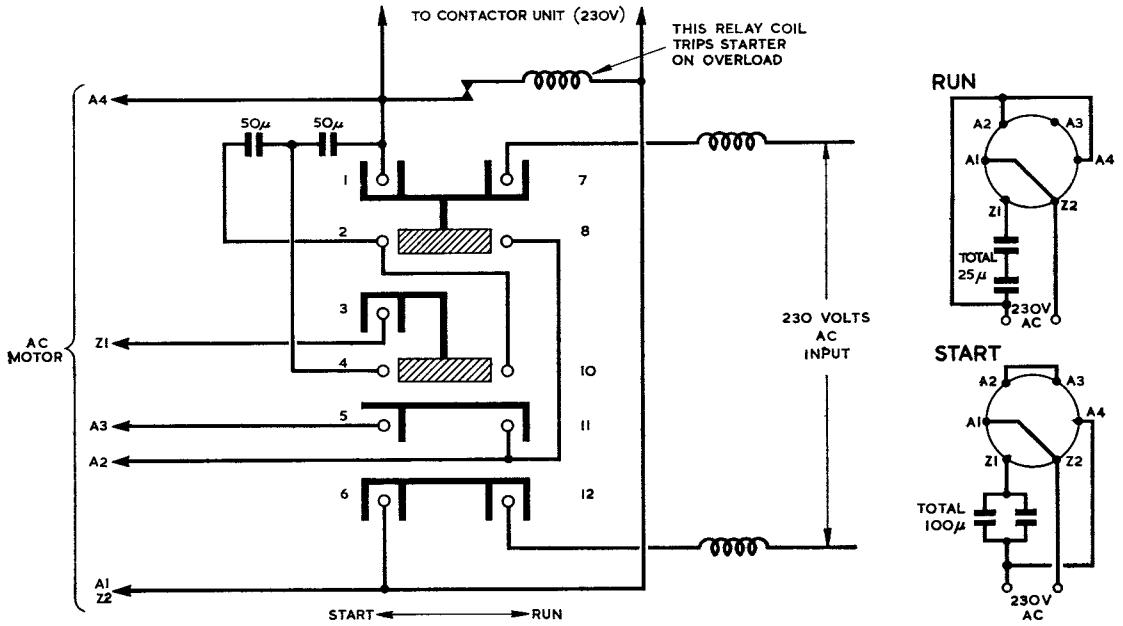

Fig. 25. Starter Type 13 : circuit
71. As shown in fig. 25, when the starting handle is pushed down, 230 volts are applied across Z1, Z2 via a 100 μF capacity. When the starting handle is pulled up the voltage is applied to Z1, Z2 via a 25 μF capacity. Fig. 25 also shows the connections in START and RUN positions.